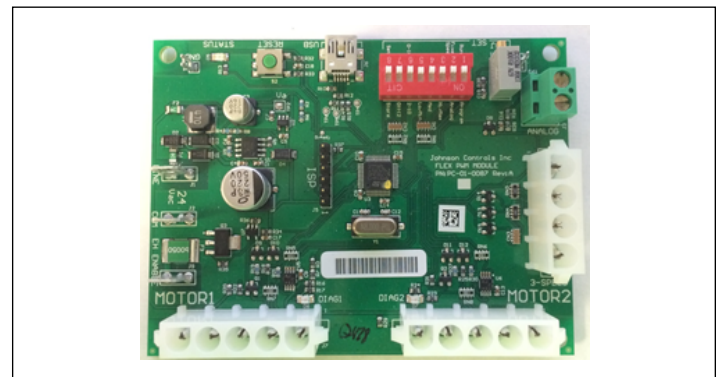

Figure 62 – G3 PWM Board
- a. Locate the G3 PWM board within the control enclosure (See Figure 62).